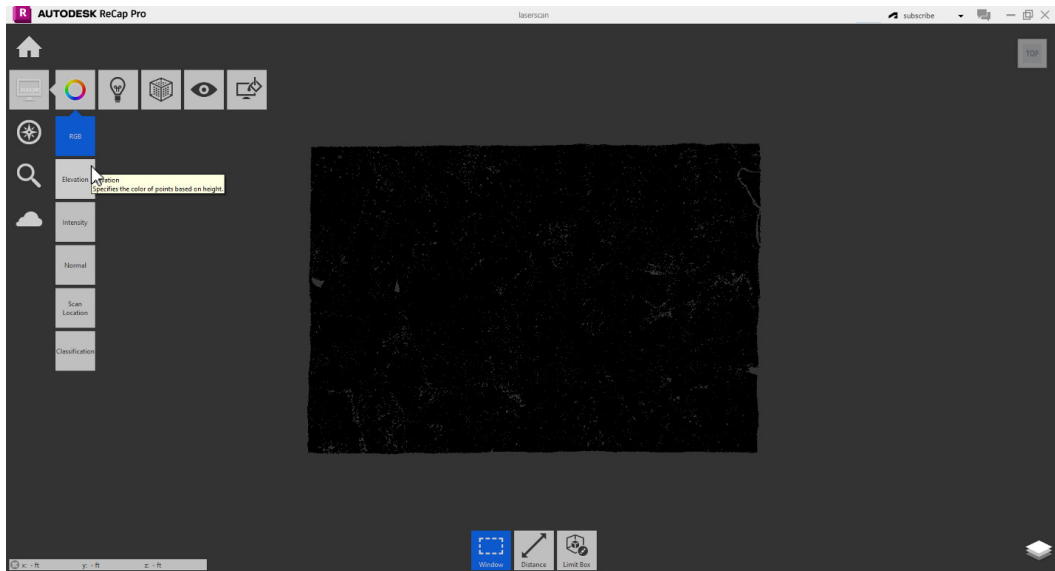

Figure 5.7 – Visualization options
5. Let's first begin by giving some color to the point cloud and showing the data in a more visual way for interpretation. Begin by hovering over the monitor icon, as shown in *Figure 5.7*. Then, while hovering over it, move your cursor over to the color wheel and hover. From here, you should see many options to select. Each of these represents a different method of visualizing the point cloud and each can help to show different information about the point cloud.